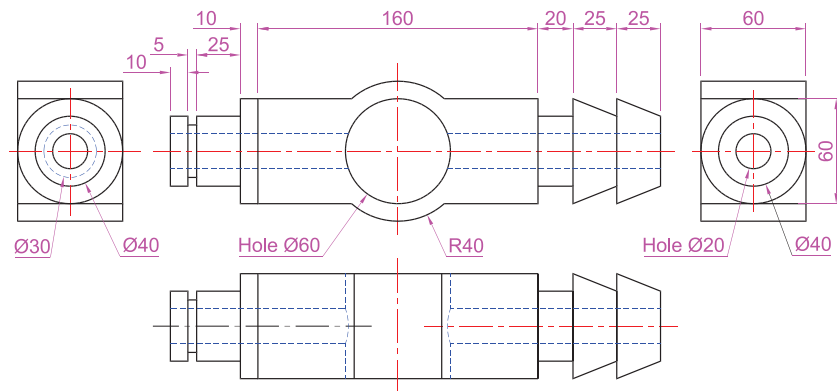

Fig. 18.17 Second example – 3D models dimensions
1. **Top** (Fig. 18.17). Construct polyline outlines for the body extrusion and the solids of revolution for the two end parts. Extrude the body and subtract its hole and using the **Revolve** tool form the two end solids of revolution.